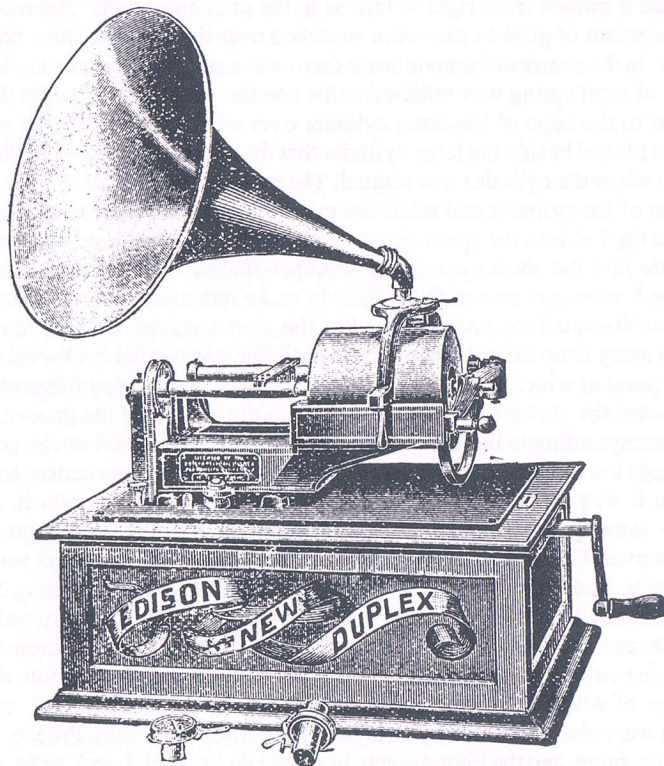
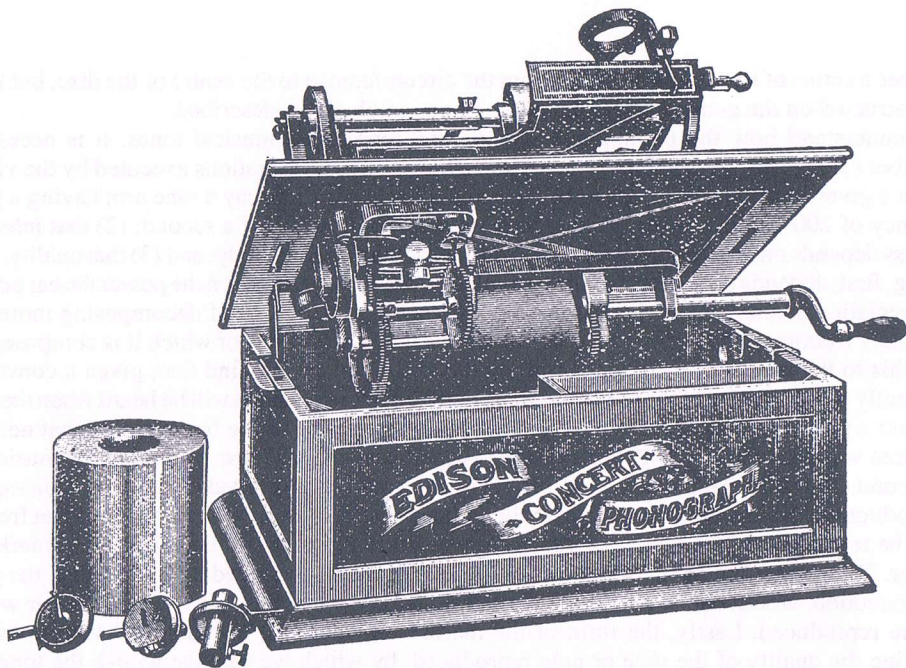

Fig. 1a — Exterior of Edison Phonograph.
Fig. 1b — Mechanism of Edison Phonograph.
The tinfoil phonograph, however, was an imperfect instrument, both as regards the medium on which the imprints were taken (tinfoil) and the general mechanism of the instrument. From 1877 to 1888 Edison was engaged in working out the details of the wax-cylinder phonograph as we now have it, one of the most beautiful of instruments (see Fig. 1a and Fig. 1b). The improvements consisted chiefly (1) in substituting for tinfoil cylinders made of waxy substance on which permanent records are taken; (2) in substituting a thin glass plate for the parchment membrane; (3) in improving the mechanical action of the marker; and (4) in driving the drum carrying the wax cylinder at a uniform and rapid speed by an electric motor placed below the instrument. In the first place, permanent records can be taken on the wax cylinder. The waxy material is brittle, but it readily takes the imprints made by the marker, which is now a tiny bit of sapphire. The marker, when used for recording, is shod with a chisel-shaped edge of sapphire; but the sapphire is rounded when the marker is used for reproducing the sound. The marker also, instead of being a stiff needle coming from the centre of the membrane or glass plate, is now a lever, heavily weighted so as to keep it in contact with the surface of the wax cylinder. A single vibration of a pure tone consists of an increase of pressure followed by a diminution of pressure. When the disc of glass is submitted to an increase of pressure, the action of the lever is such that, while the wax cylinder is rotating, the point of the marker is angled downwards, and thus cuts deeply into the wax; and when there is diminution of pressure, the point is angled upwards, so as to act less deeply. In reproducing the sound, the blunt end of the marker runs over all the elevations and depressions in the bottom of the groove cut in the wax cylinder. There is thus increased pressure transmitted upwards to the glass disc when the point runs over an elevation, and less pressure when